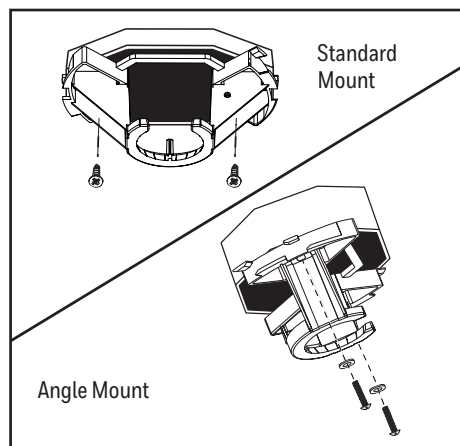

Figure 2.2
2. Install the mounting bracket to the outlet box (not included) using the screws and washers provided with the outlet box. **WARNING:** To reduce the risk of fire, electric shock, or personal injury, mount to the outlet box marked "acceptable for fan support". (Figure 2.2).